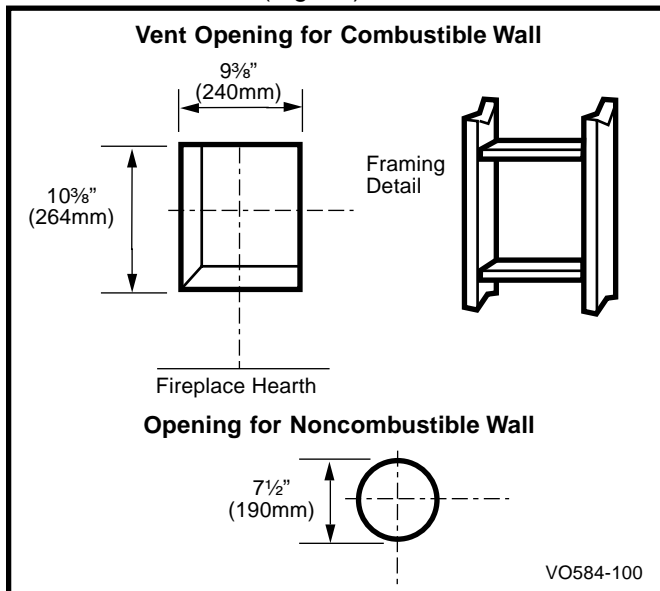

Fig. 14 Locate vent opening on wall.
**Combustible Walls** (Fig. 14): Cut a 10 $\frac{3}{8}$ "H x 9 $\frac{3}{8}$ " W (264 x 240mm) hole through the exterior wall and frame as shown.
**Noncombustible Walls** (Fig. 14): Hole opening must be 7 $\frac{1}{2}$ " (190mm) in diameter.